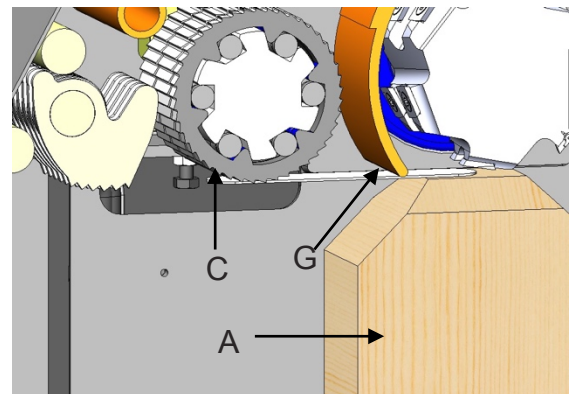
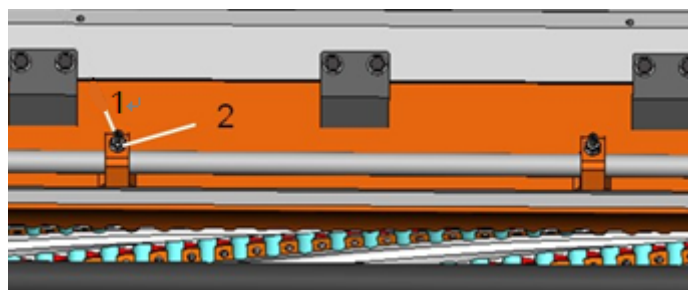

Fig. 17: Finger Adjustment
Fig. 19: Pressure Bar Adjustment
2. Place a hard wood gauge (Fig.17, A) under a knife in cutterhead (Fig.17, B). Place a 0.02" (0.5mm) feeler gauge (Fig.17, C) on top of wood block and raise table until feeler gauge contacts the knife in its lowest position.
2. 1. Loosen screw (Fig. 19, 1) and nut (Fig.19, 2) turn the screw to the right so that the pressure bar moves upward. Place gauge block and 0.2mm thickness gauge (Fig.17, A) under the cutterhead.
2. Place a hard wood gauge (Fig.17, A) under a knife in the cutterhead. Place a 0.02" (0.5mm) feeler gauge (Fig. 17, B) on top of wood block and raise table until the gauge contacts the knife in its lowest position.